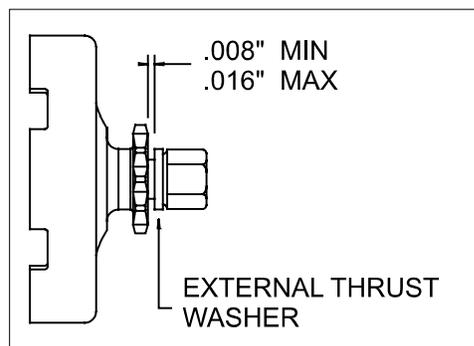

Fig. 2 End Play
3. Install Coned Safety Washer (item 7), Jam Nut (item 6) and tighten until Coned Safety Washer is flat. (450 in. lbs.)
4. Install the Internal Thrust Washer (item 5). Due to manufacturing tolerances, three sizes of the Internal Thrust Washer are provided with each Clutch. It is important to install the washer that provides proper clearance to allow the drum to spin free after the Starter Nut (item 1) is tight. (See fig. 2) Note: Chamfered side of washer faces engine.
5. Apply lithium grease to the Roller Bearing (item 3) before installing the Drum.
7. Install the External Thrust Washer (item 2). Note: Chamfered side of washer faces engine.
8. Thread on the Starter Nut (item 1) and tighten to 300 in. lbs. Optional Spanner Wrench (P/N 99-5139) is designed to prevent the crankshaft from turning while tightening the Starter Nut.
## End Play (See Fig. 2)